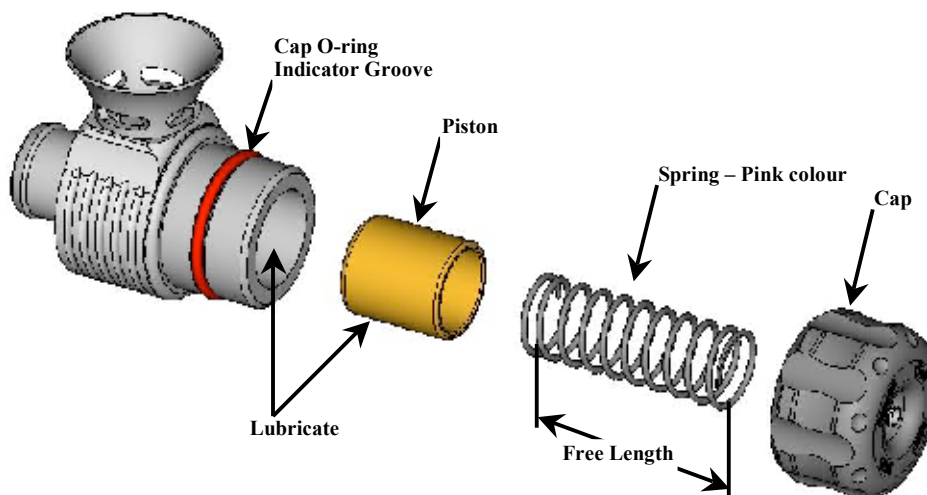

Figure 3 Exploded View of the Kompact SS BOV
- Rotate the cap in the direction of soft to decrease the spring tension – **CAUTION** Do not rotate the cap beyond the indicator groove (see figure 3).
- Lubricate the bore and the piston with Turbosmart lubricant (see figure 3) – **DO NOT** use grease or viscous oils.